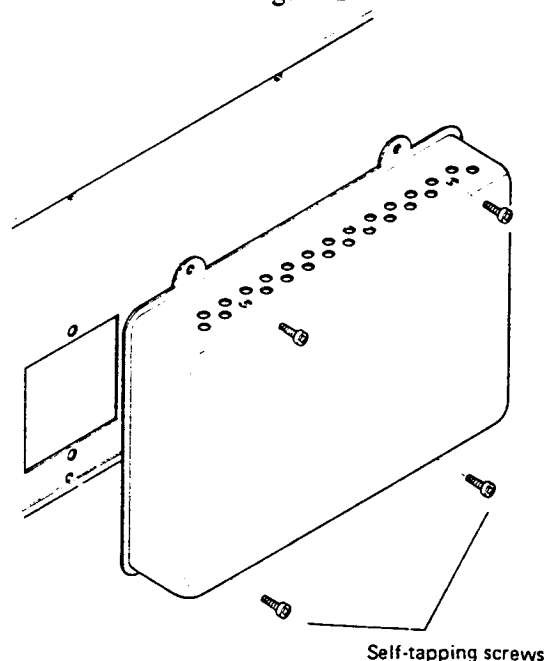

Figure 4
- (3) Mount the Memory Unit with the supplied self-tapping screws (4 pcs), as shown in Fig. 4, being sure that no wires from inside the unit are protruding.